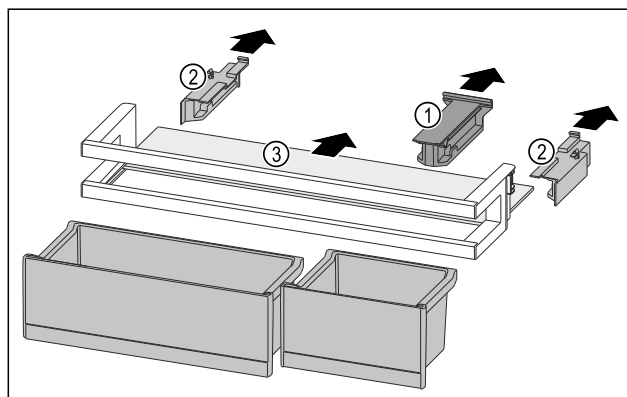

Fig. 195
- Pull off the holding part Fig. 195 (1).
- Pull off the side parts Fig. 195 (2).
- Remove the shelf Fig. 195 (3).